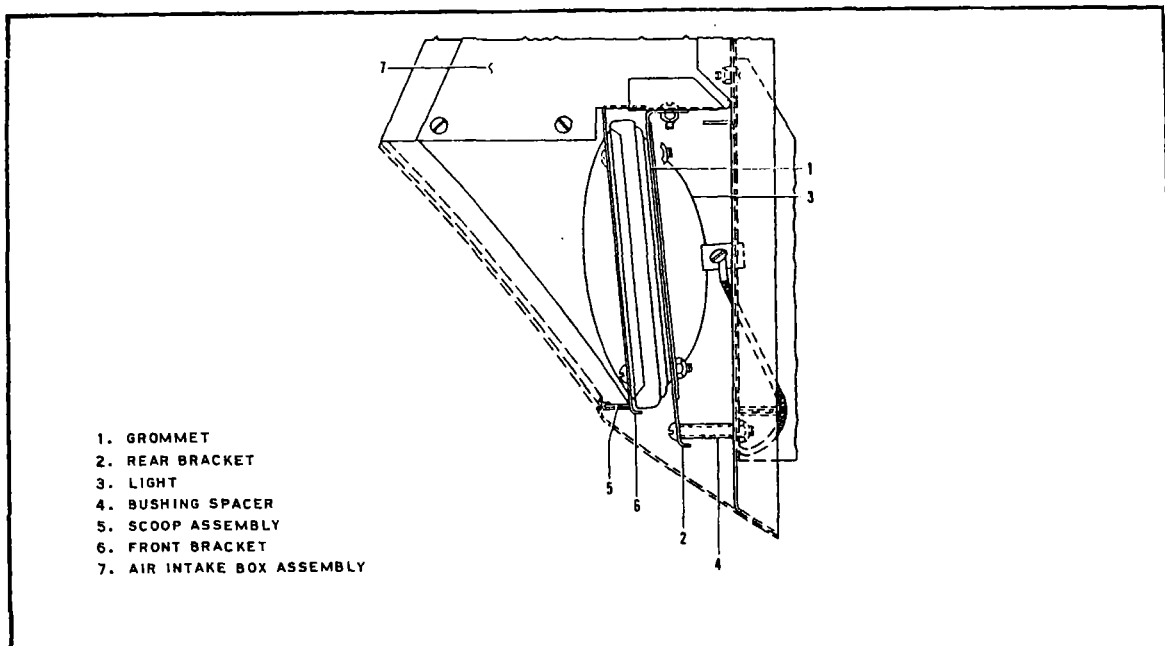
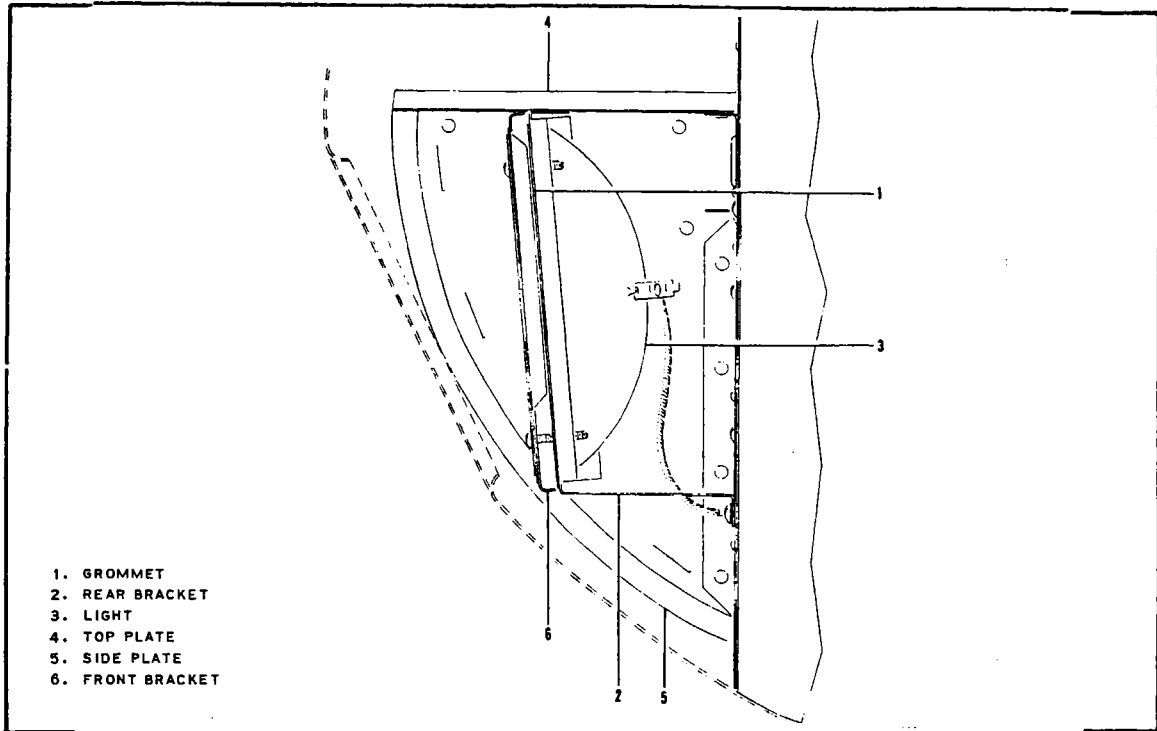

Figure 4-2. Landing Light Installation
Figure 4-3. Landing Light Installation
b. Remove the two self-locking nuts from the lower screws passing through both rear and front brackets (2 and 6, Figure 4-2 for Apache serial numbers 23-1 to 23-1163 inclusive), (2 and 6, Figure 4-3 for Apache serial numbers 23-1164 and up.)
4-20. REMOVAL AND DISASSEMBLY OF LANDING LIGHT HOUSING. Removal and disassembly of the light housing are evident. (Refer to Figure 4-2 for Apache serial numbers 23-1 to 23-1163 inclusive.) (Refer to Figure 4-3 for Apache serial numbers 23-1164 and up.) The only requirements are that the electrical leads to the light are disconnected prior to removal and that the light is not dropped when the front and rear brackets are separated.